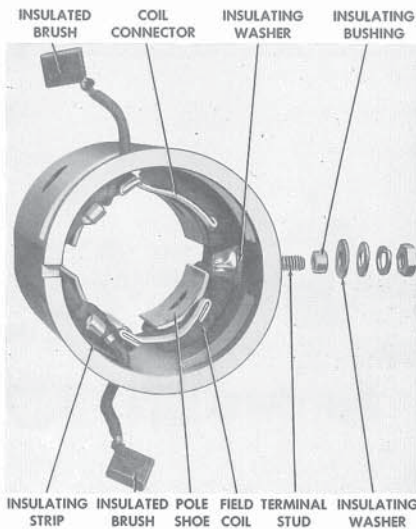

Fig. 45. Field Coil Installation
**Replace Field Coils** (Figure 45). Remove solenoid switch connector. Remove nuts and washers from field terminal stud. Remove screws fastening pole shoes and lift shoes out of coils. Disengage terminal stud from frame and withdraw coil assembly from frame.